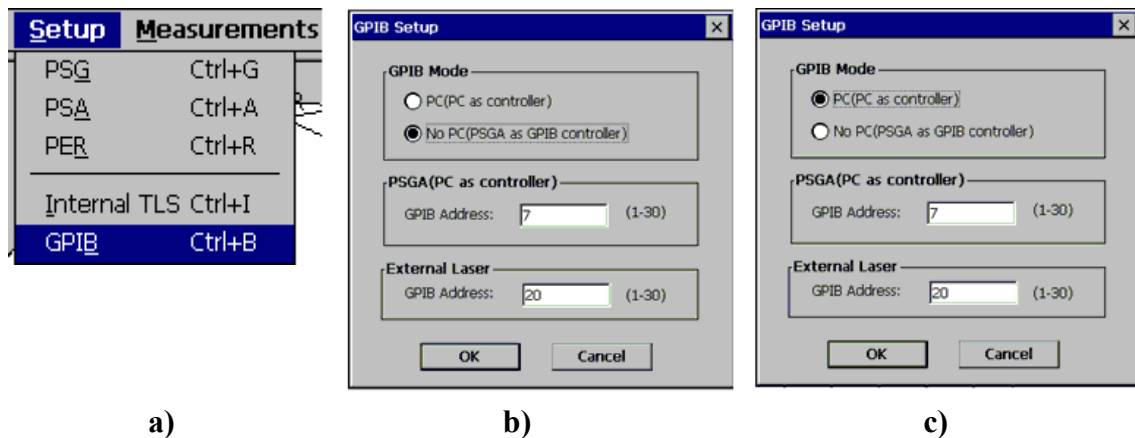
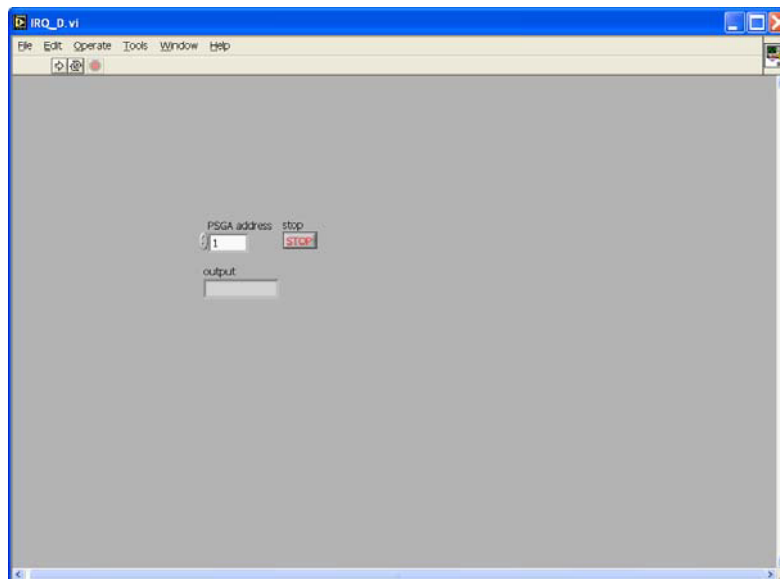

Figure 55 GPIB setup interface
Figure 56 Control interface of IRQ.exe
- No PC Mode (PSGA Mode):** The PSGA acts as the GPIB controller; it controls the other GPIB devices. In this mode, no other PC is connected to the PSGA-101A through a GPIB connection. Without an external PC, the PSGA can be used as a GPIB controller to control external lasers through GPIB cables. **If this mode is to be used, no external PC can be connected to the PSGA via GPIB cable; if a PC is connected, the PSGA cannot control the external laser or communicate with the PC.** The GPIB address of the PSGA is 0 (when it is used as a GPIB controller). The correct GPIB address of the external laser to be controlled must be set in the setup dialog window (Figure 55).
- PC Mode:** the remote PC functions as the GPIB controller, with the PSGA-101A as one of the GPIB devices under remote control. In this case, the user should set a GPIB address between 1 and 30 for the PSGA-101A, and the correct GPIB address for the external laser being controlled by the PSGA, in the setup dialog window (Figure 55). The GPIB driver program “IRQ.exe” should be run on the PC to support this mode (Figure 56), **otherwise, the PSGA cannot control the external laser to finish measurements. Please set the correct PSGA GPIB address before attempting any measurements or control.**